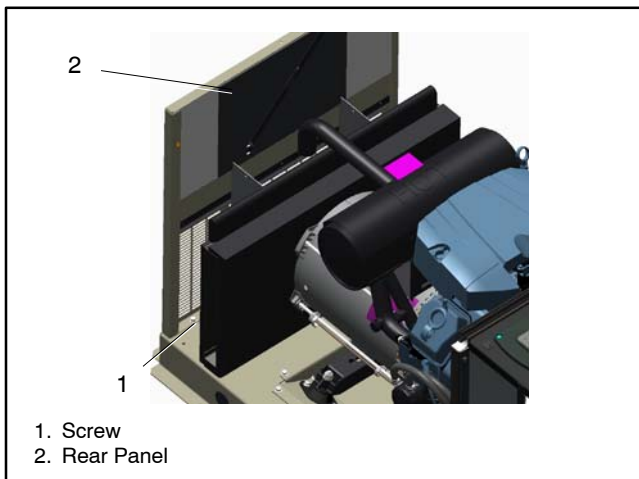

Figure 7-17 Rear Panel
15. From the inside of the enclosure, remove the screws to remove the rear (exhaust end) panel. See Figure 7-17.